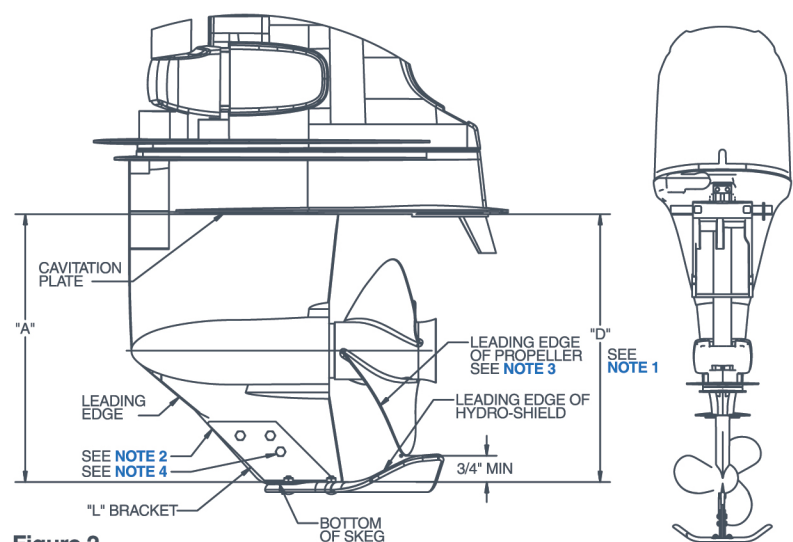
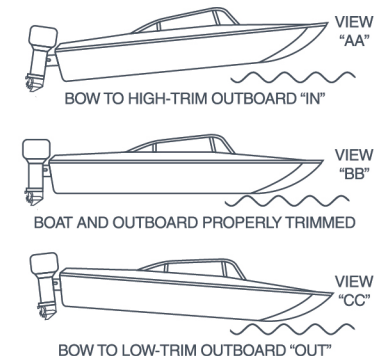

Figure 2
Figure 4
STEP 2: Place "L" brackets with **FIN** on skeg of motor. See **figure 2** for mounting details.
Dimension "A" and "D" must be the same dimension. Verify the two dimensions with a tape measure. see **Figure 2, Note 1.**
If motor has power tilt and operates trim-out (like view "AA" in figure 4), the "Hydro-Shield can be mounted with "D" (see figure 2) measurement greater than "A" by 1/2"